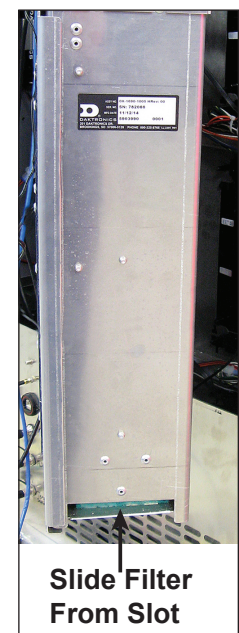

Figure 34: ISP Enclosure Filter Location
1. Pull the filter out from the right side of the enclosure. Refer to **Figure 34**.